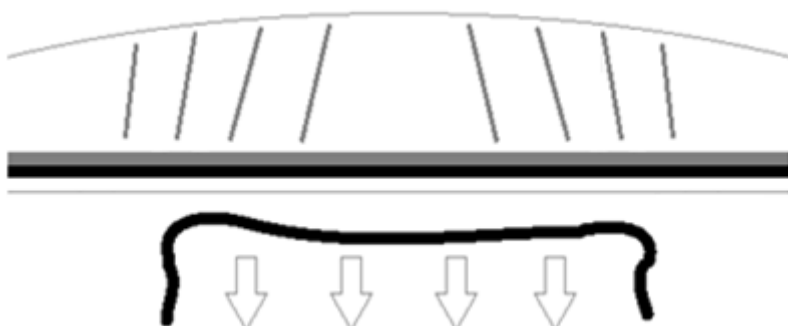

Fig121
- **STEP 1:** Cut a 19mm x 38mm batten to fit across the top of the door frame and end frame between the outer battens that form the rebate. Starting at one end of the polytunnel, trap the polythene with this batten pressed tight against the rebate batten. The polythene should be smoothed out 4 inches either side of the lintel centre and the batten nailed in place along this 8 inch length only (**Fig121**).